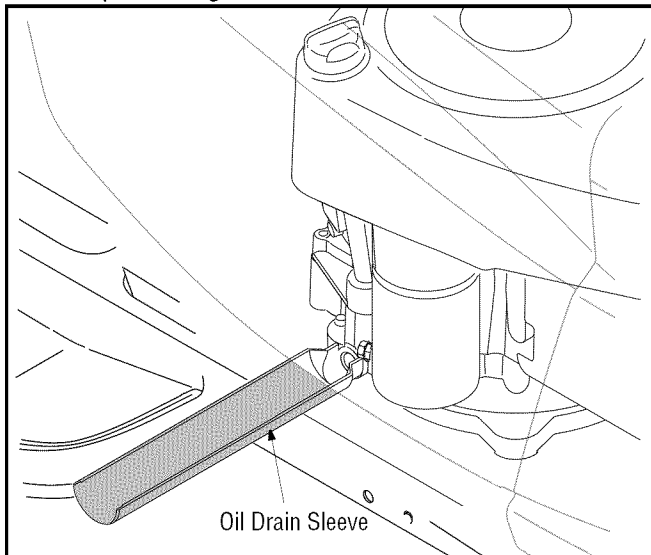

Figure 20
- Snap the small end of oil drain sleeve onto the oil sump. See Figure 20.